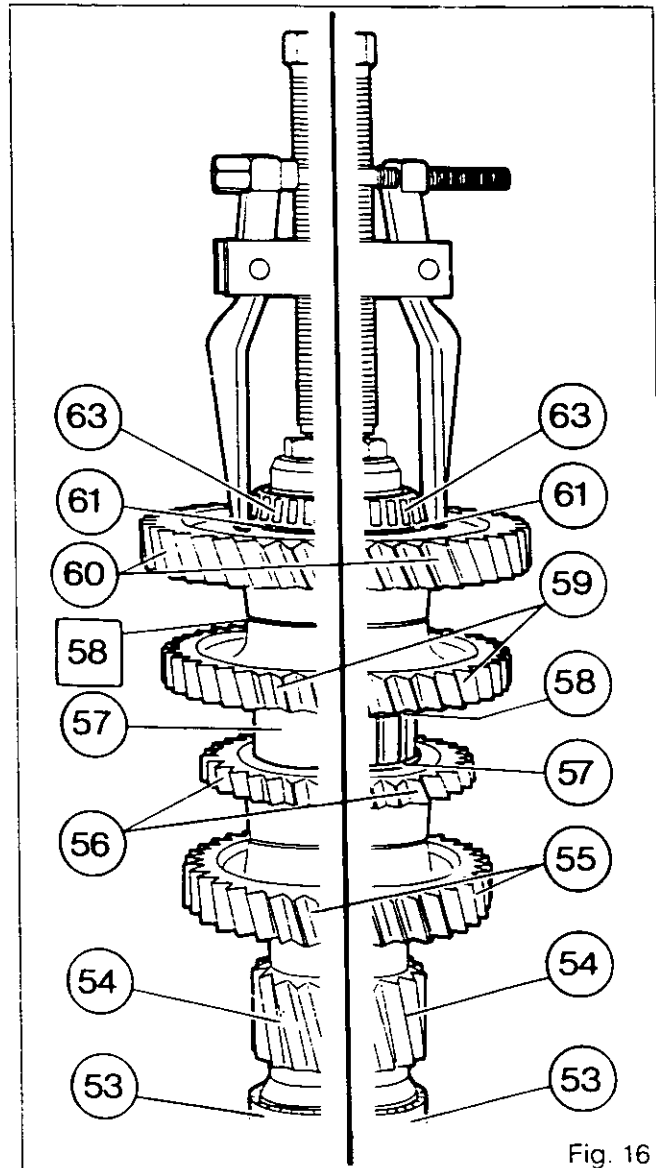
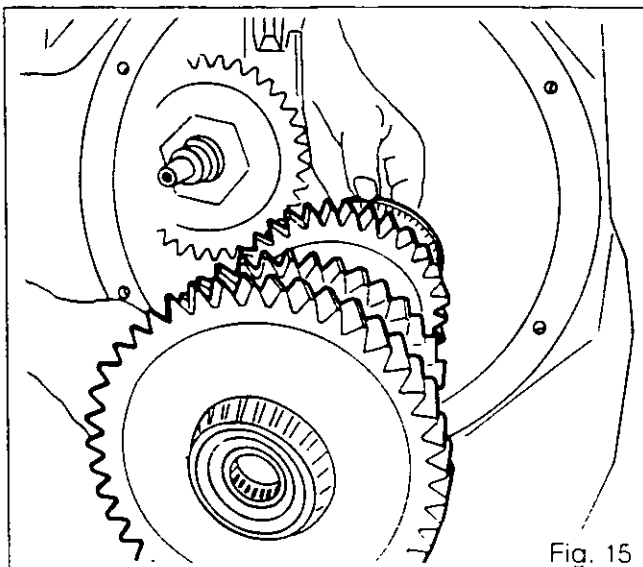
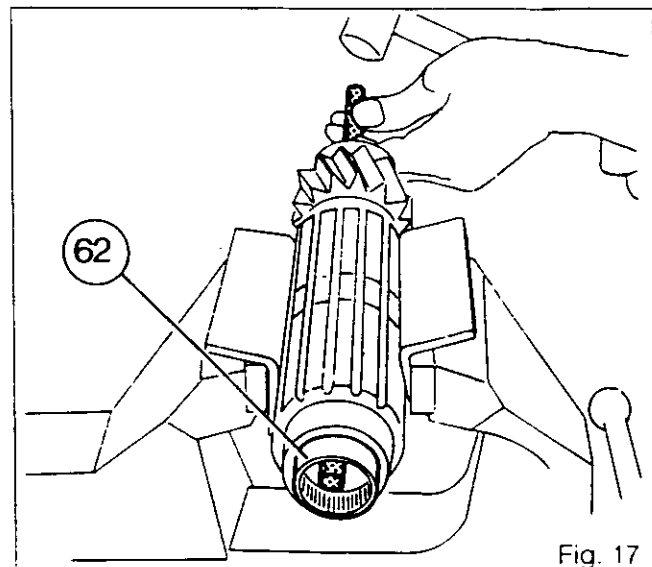

Fig. 16
Fig. 15
Fig. 17
20. Withdraw the layshaft complete (Fig. 15).
21. Remove the washer (50). See page 32.
23. Remove the cup (52).
**Disassembly of shaft (54) (Fig. 16). A new shaft fitting was introduced from serial number P345012 (version b). Tractors prior to this number are fitted with version a.**
24. Withdraw the taper roller bearings (53) and (63).
25. Remove the circlip (61).
26. **a)** Remove 1st gear (60) and 2nd gear (59).
**b)** Remove 1st gear (60), the shims [58] and 2nd gear (59).
27. **a)** Remove circlips (58) and (57) (Fig. 16).
**b)** Remove spacer (57)
28. Remove 4th gear (56) (4 x 2 gearbox) and 3rd gear (55) (4 x 2 gearbox)
29. Remove 3rd gear (56) (4 x 4 gearbox) and 4th gear (55) (4 x 4 gearbox).
30. Drift out the needle roller bearing (62) (Fig. 17) and discard it.